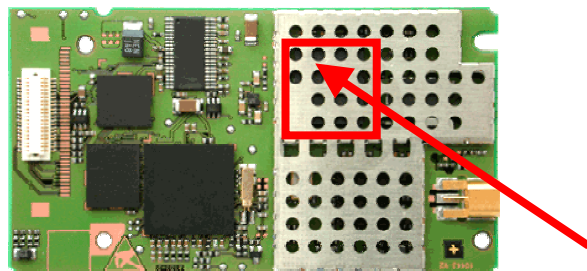
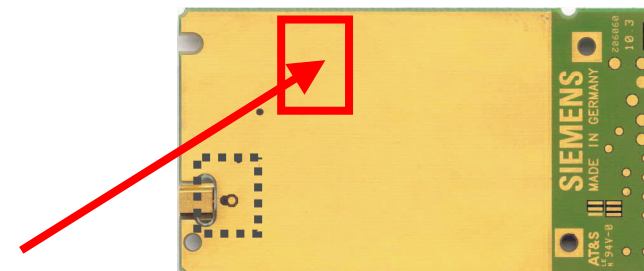

Figure 31: Temperature measuring point on AC45 shield cover
Figure 32: Temperature measuring point and antenna test point on AC45 bottom
The following tables show the results of extensive testing based on different combinations of heat sinks and thermally conductive tapes. The heat sinks were attached to the ground pad on the bottom of the module. A hole for the antenna connector was cut out of the heat sink to ensure that it sits perfectly flat and tight to the surface of the board. Another small hole was drilled through the heat sink to pick up the temperature sensor soldered to the test point on the bottom. Please note that the heat sink should not cover the antenna test point enclosed by the dashed line as shown in Figure 32. This area shows the test point on the antenna feeding line which would otherwise be shorted to ground.
- Two temperature measuring points on the module: TP on top (shield cover) and TP on the bottom. See Figure 31 and Figure 32.